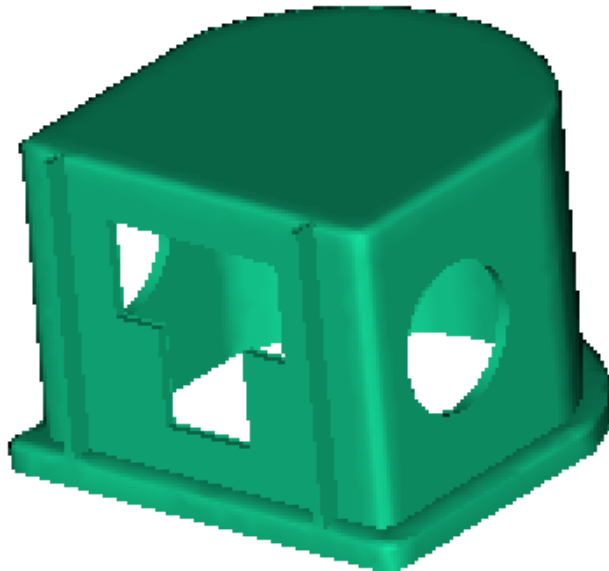

Figure 63: STL representation of the Speedo model
- Notice the STL layer shows the actual part shape see Figure 63.